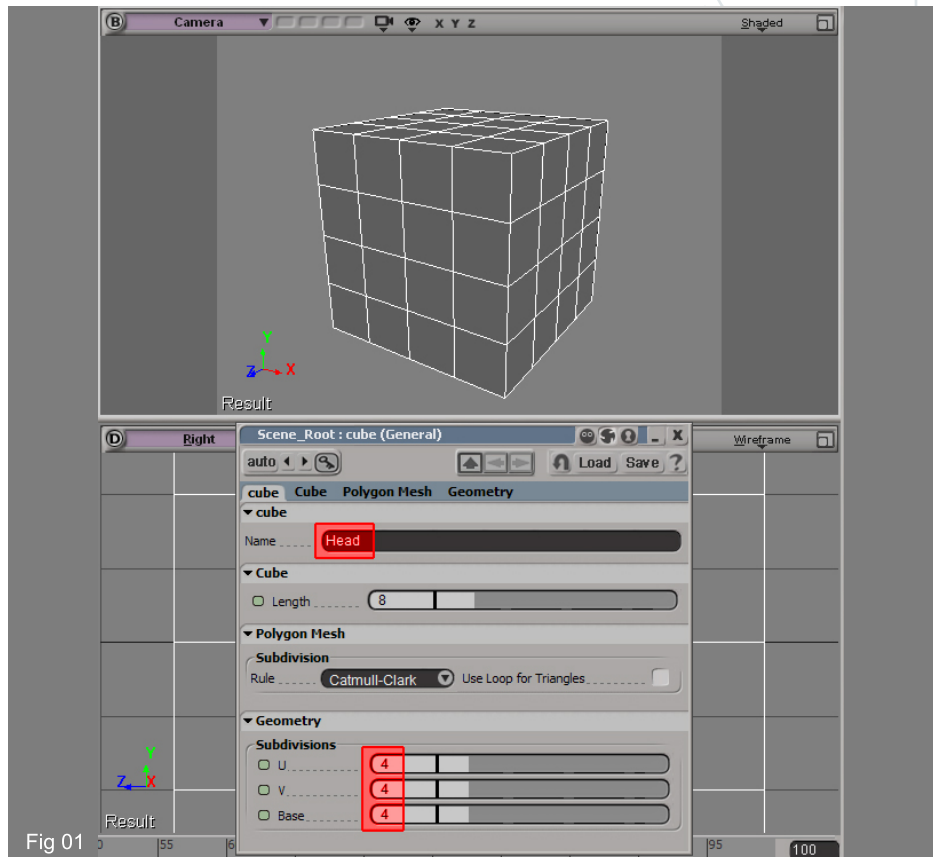

Fig 01
1. Let's start creating a PolyMesh Cube (Get > Primitive > PolyMesh > Cube); in the Property window, set 4 subdivisions for each dimension (U, V and Base); also, remember to give this mesh a significant name (for example, "Head") like shown in Fig01: